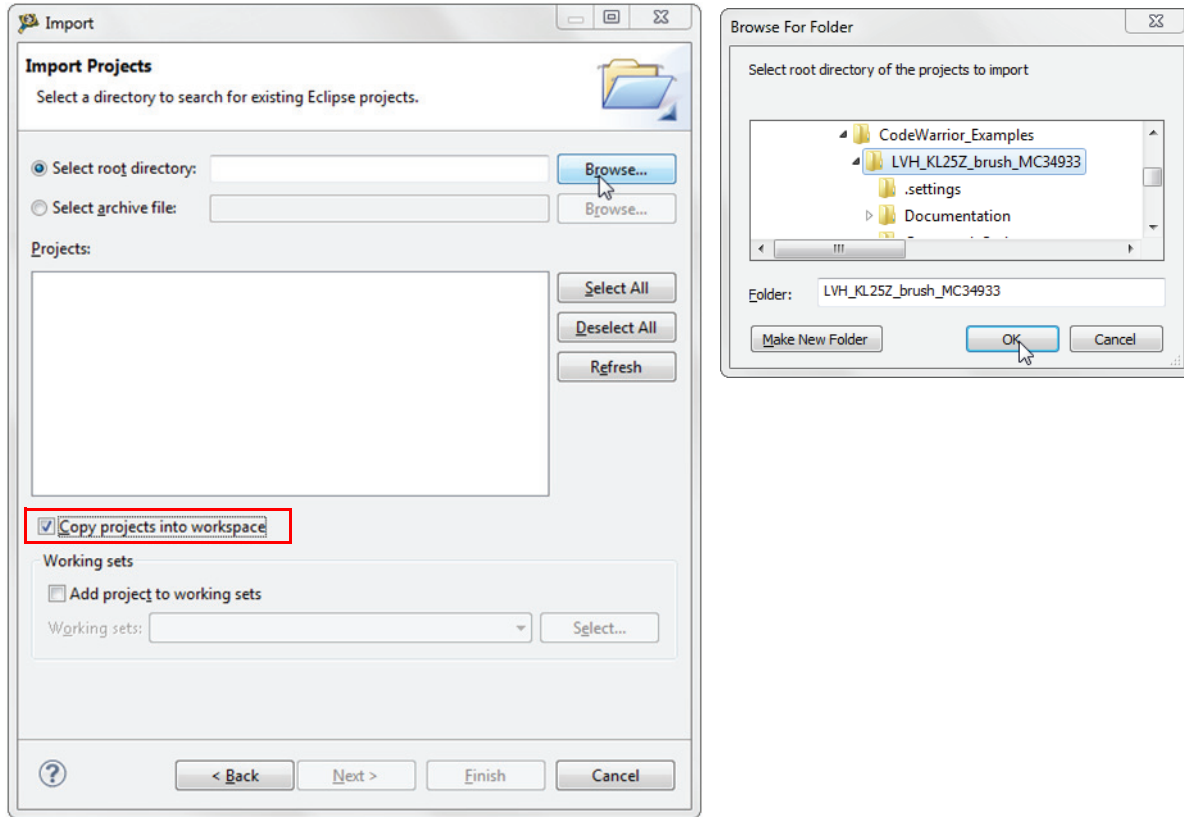

Figure 9. Example Project Import
2. Locate the example in folder: `LVHBridge_PEx_SW\CodeWarrior_Examples` (see Figure 9, which shows `LVH_KL25Z_brush_MC34933` as the imported project). Then click **Finish**.